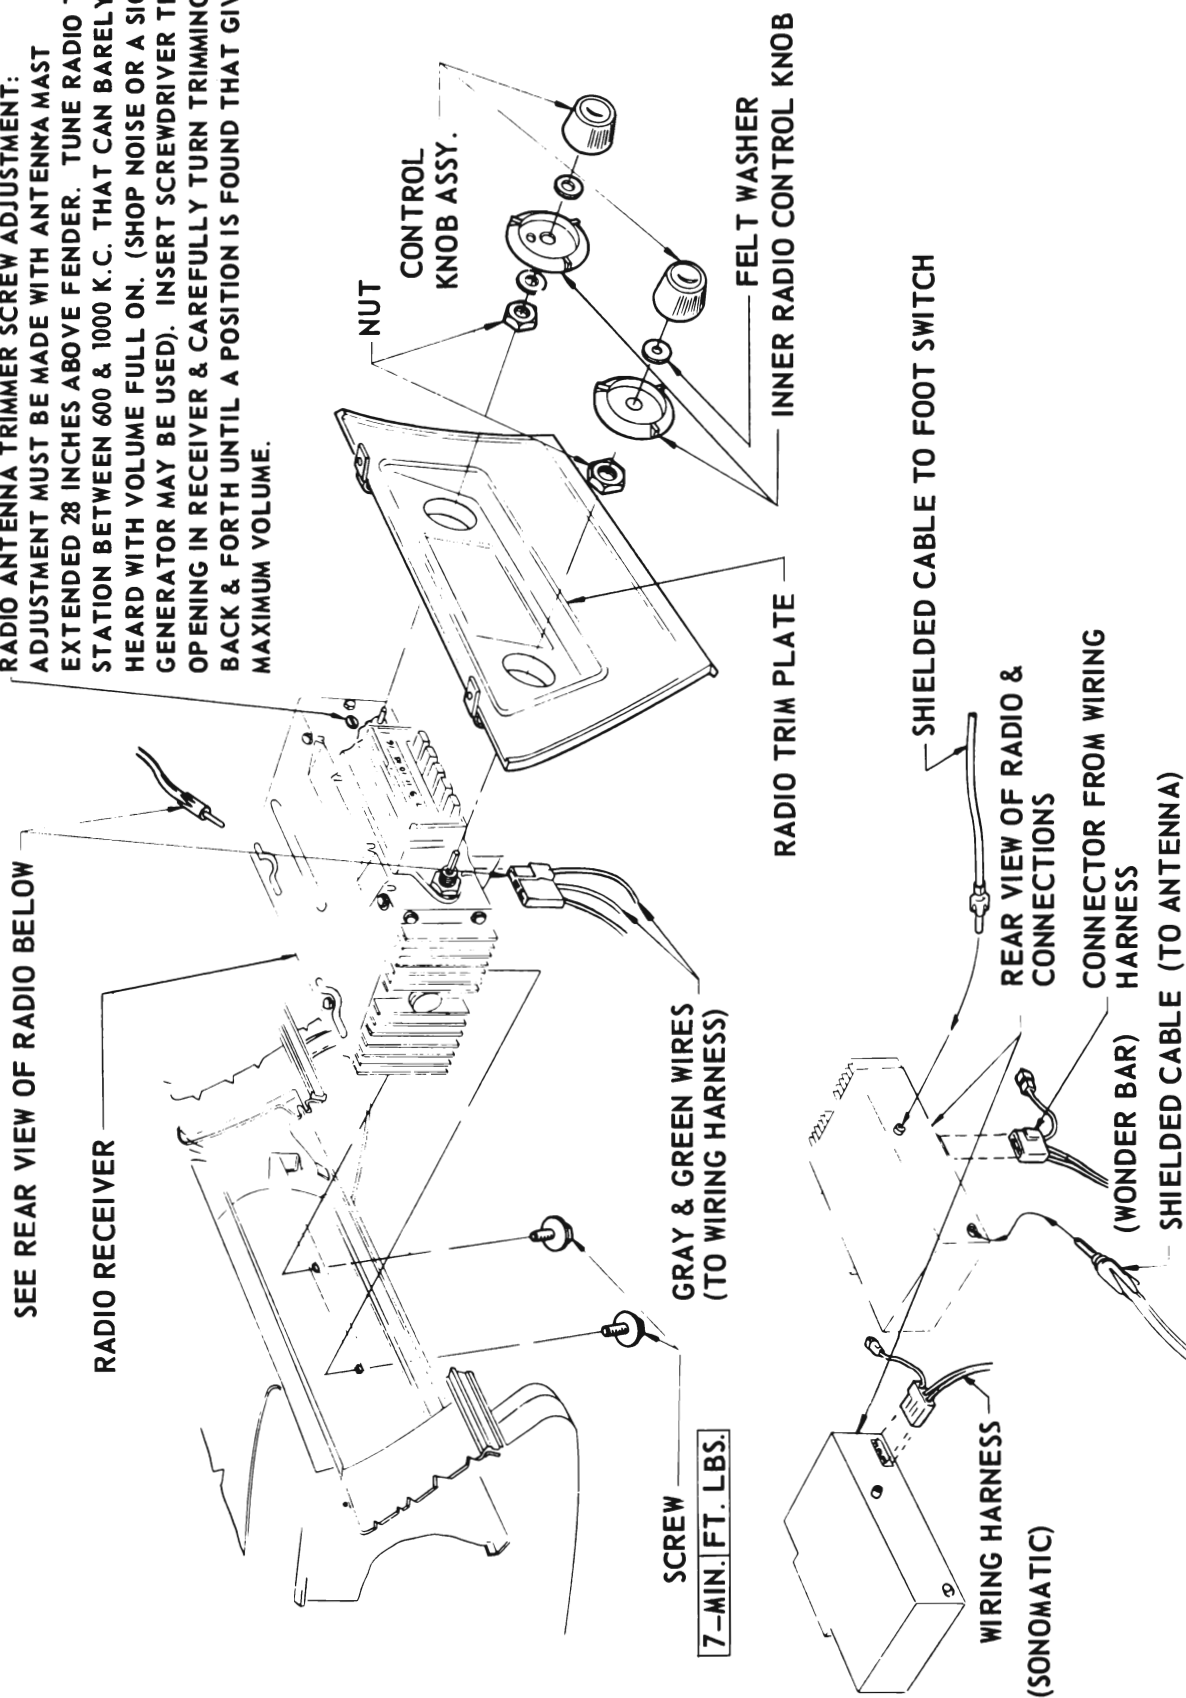

Figure 11-5—Radio Receiver Installation - 49000 Series
3. If car is air conditioned, remove two screws holding air conditioner center outlet assembly to radio trim plate (see Figure 11-5) and left off center outlet assembly, and also center outlet duct.